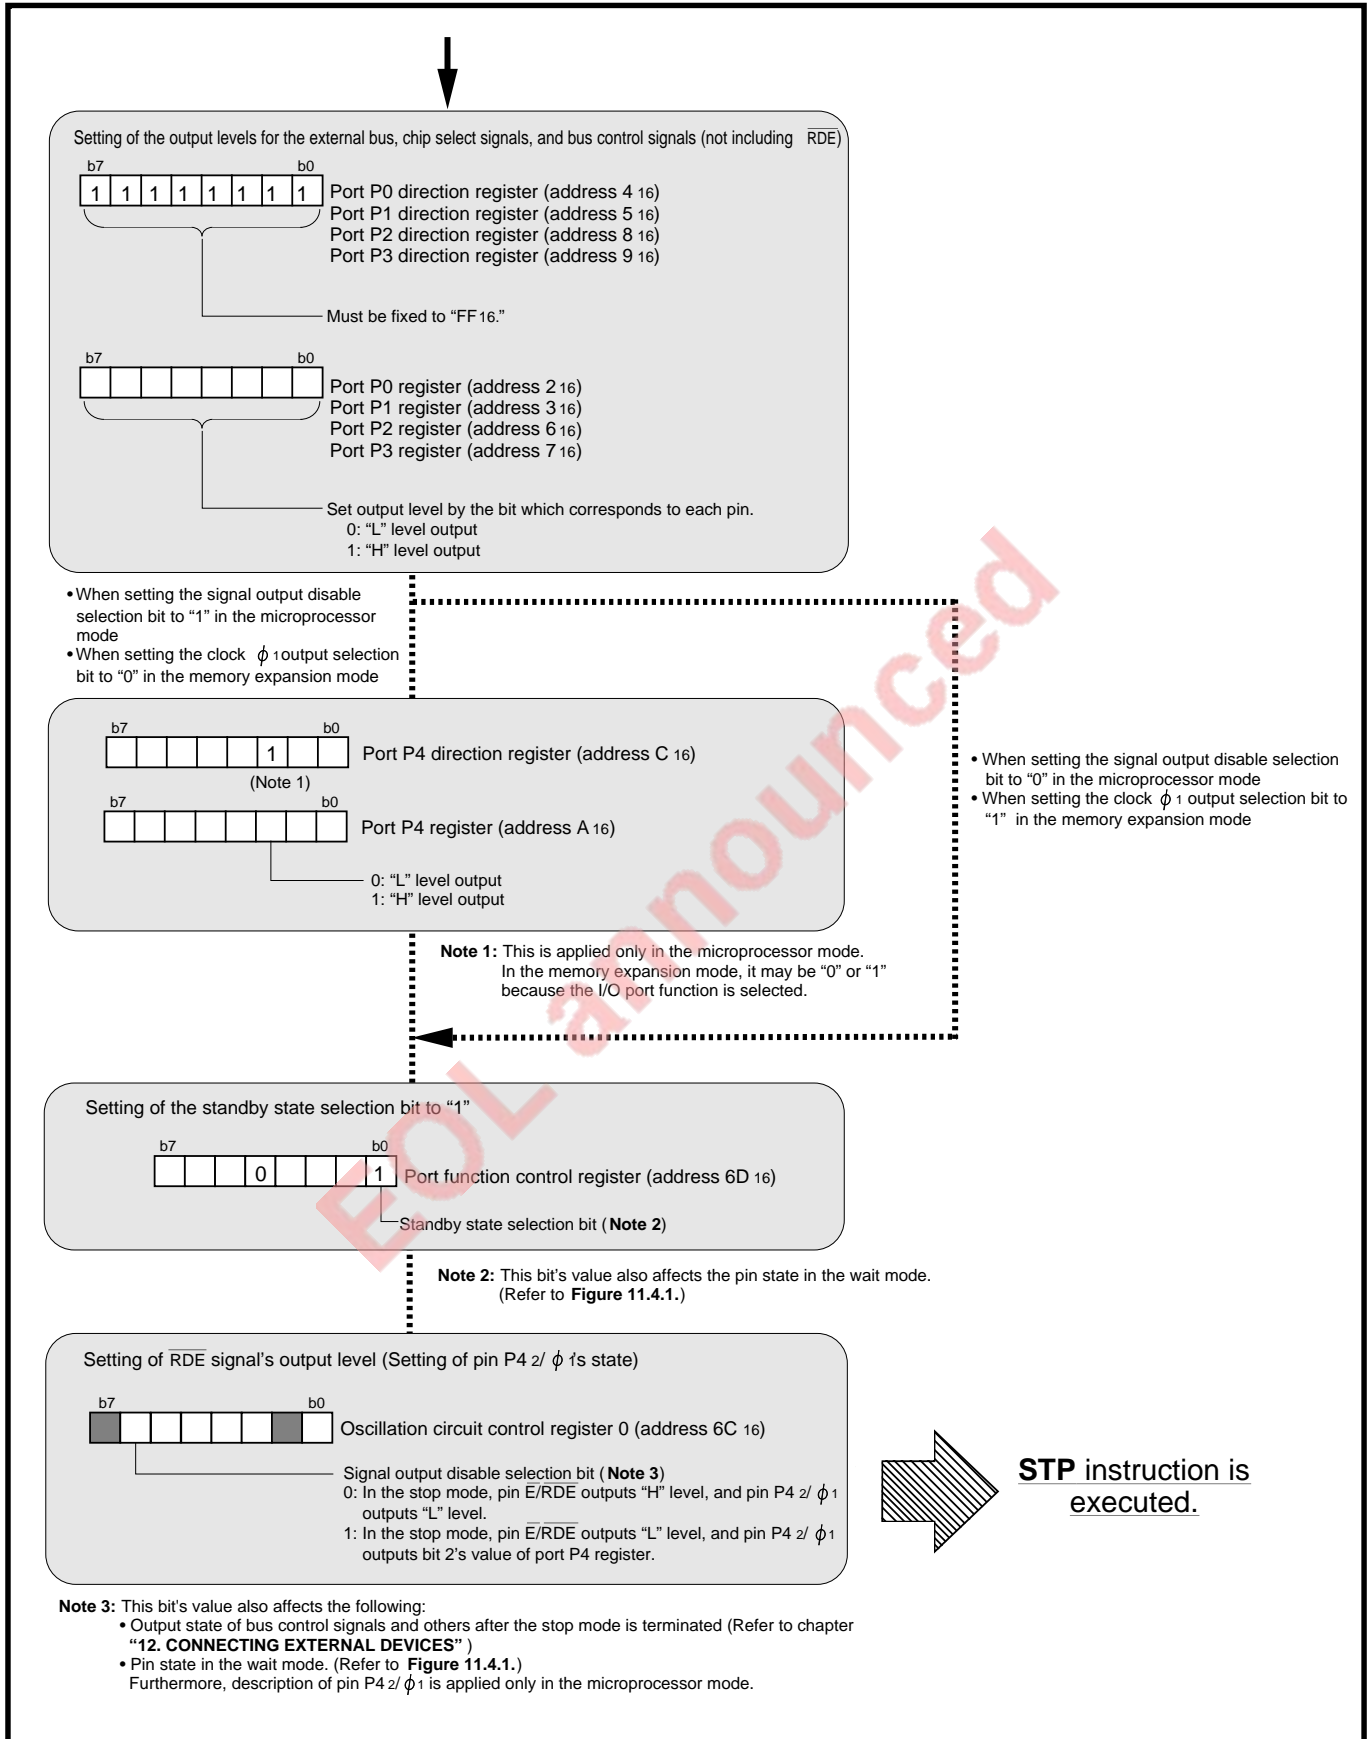

Fig. 11.3.1 Output level setting example in stop mode (Memory expansion or Microprocessor mode)
- Table 11.3.2 and Figure 11.3.1
Standby state selection bit*1: Bit 0 at address 6D16 (Refer to **Figure 11.3.1**.)